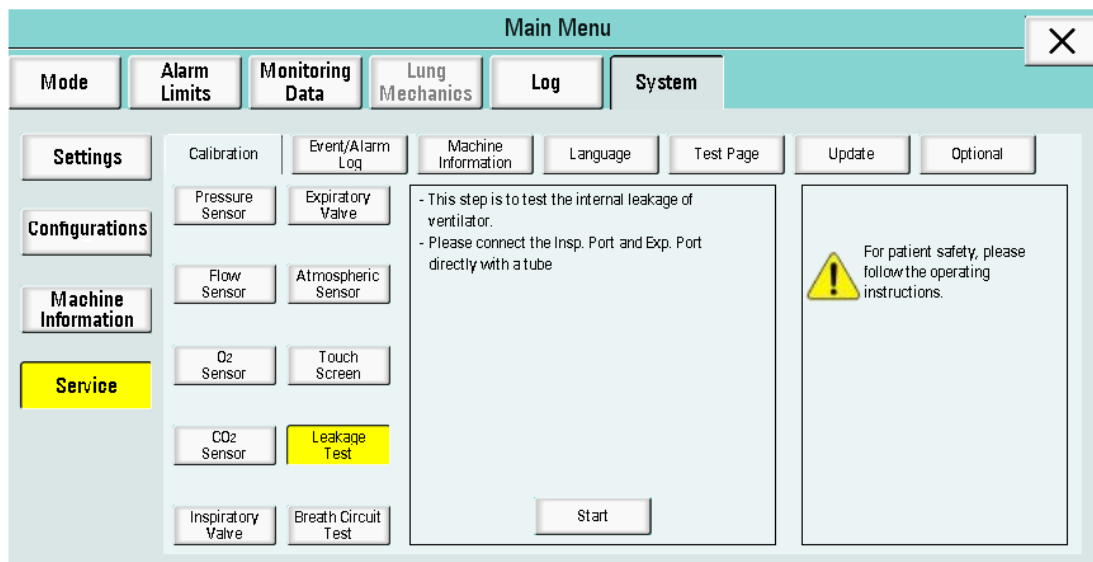

Figure 6-70
(9) Leakage Test Calibration: Click “Leakage Test” to enter the test interface. A message is displayed: “This step is to test the internal leakage of ventilator. Please connect the Insp. Port and Exp. Port directly with a tube”, as shown in Figure 6-70.